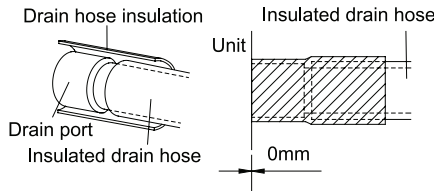

Fig.28
- (9). Be sure to insulate where the drain port and the drain hose is connected.(Fig.28)